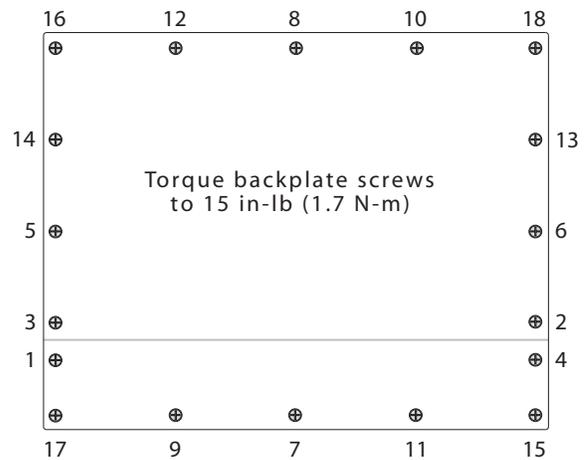

Figure 2-1. 820i and 920i Enclosure Backplate.
9. For indicator models that include a backplate, position the backplate over the enclosure and reinstall the backplate screws. For the 820i and 920i desktop and universal models, use the torque pattern shown in Figure 2-1 to prevent distorting the backplate gasket. Torque screws to 15 in-lb (1.7 N-m).